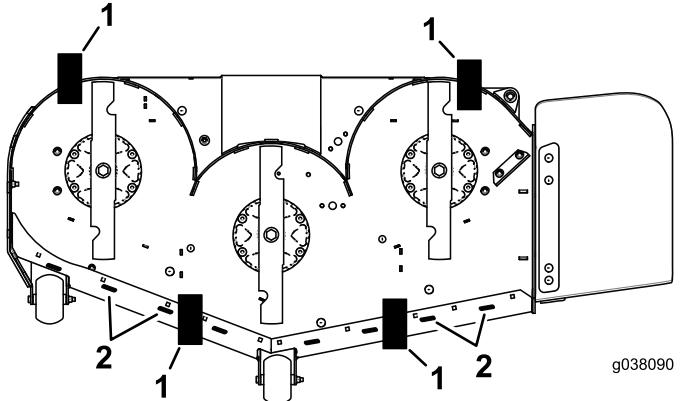

Figure 97
- 11. Place 2 blocks (see Block Height and Rake Table) under the rear edge of the cutting deck skirt; 1 on each side of the cutting deck (Figure 97).